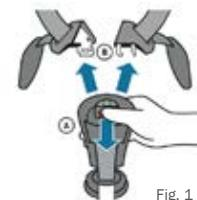

Fig. 1
1. Open the 5-point harness by clicking on A and B from the harness attachment. (Fig. 1).